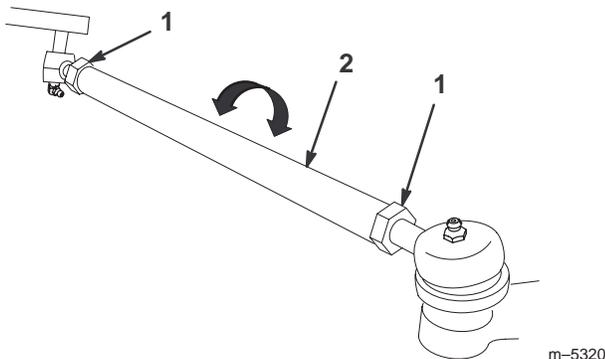

Figure 37
3. If the measurement is greater than 1/4 in. (6.4 mm), loosen the jam nuts at both ends of the tie rods (Fig. 37).